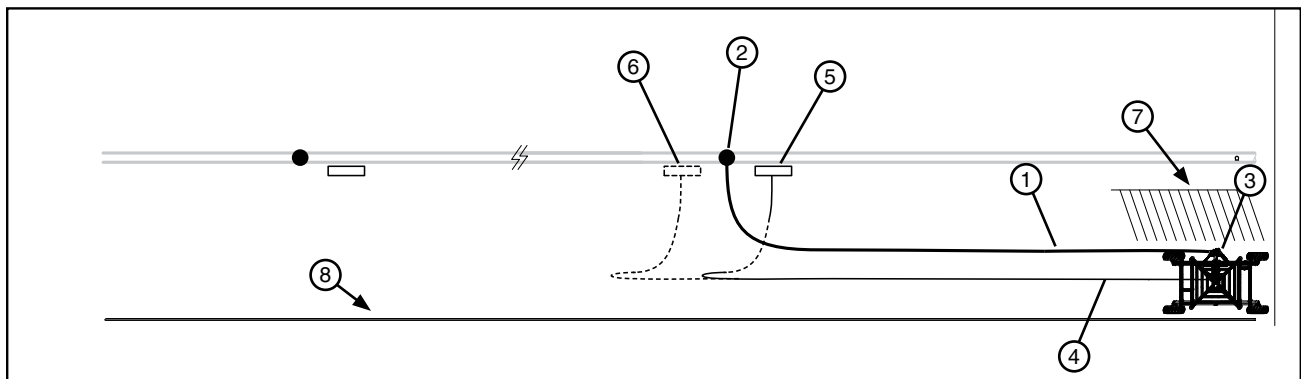

Figure 55-1 1. Hose 3. Side Inlet 5. Power Pedestal 7. Smooth Hard Area
- (b) Position the electric cord far enough away from the hose, so that the hose will not drag over it. To prevent interference between the electric cord, cart tires and hose, bury the electric cord in the area where interference will occur or when applicable, position the electric cord over the top of hose. See Figure 55-1.